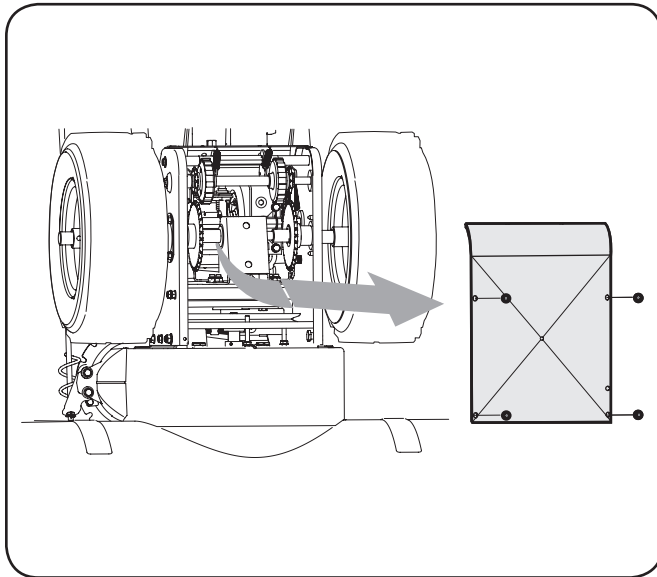

Figure 6-6
2. Remove the frame cover from the underside of the snow thrower by removing the self-tapping screws which secure it. Refer to Figure 6-6.
1. With the snow thrower tipped forward (be certain to run the fuel tank dry before tipping the unit forward), remove the frame cover underneath the snow thrower by removing the self-tapping screws. See Figure 6-6.